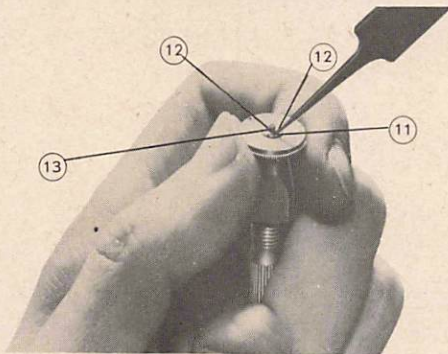

Fig. 2
- a) Hold the *Barrel Arbor* with *Pin Vise* (See Fig. 2) and wind the spring slightly ($\frac{1}{8}$ th of a turn) to loosen *Disc 11* (Fig. 2).
- b) Unscrew the two screws (No. 12—Fig. 2) completely.
- a) Hold *Barrel Arbor* in *Pin Vise* as shown in Fig. 2.
- c) Place *Disc 11* (Fig. 2) back into position by screwing up as far as it will go (turn towards left). Line up the two screw holes in the *Disc* with those in the cover.
- d) Replace two screws 12 (Fig. 2).